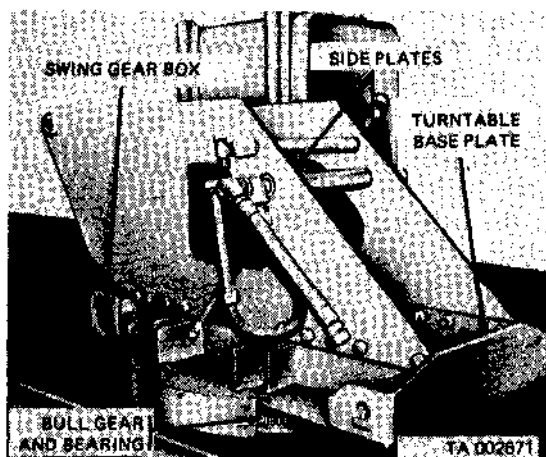

Figure 555. Turntable and swing drive assembly.
a. General. The turntable and swing drive consist of the turntable base plate with bull gear bearing, side plates, and swing gearbox as shown in figure 555.
- (1) Remove boom assembly (para 406).
- (2) Remove hydraulic oil reservoir tank (para 400).
- (3) Remove boom elevating cylinders (para 404).
- (4) Remove operator's station (para 413).
- (5) Remove swing drive gearbox (para 402).
- (6) Remove hydraulic pump (para 401).
- (7) Remove hydraulic pump support (para 410).
- (8) Remove side plates from turntable base plate as shown in figure 555.
(3) Install side plates to turntable base plate as shown in figure 555.
(4) Install hydraulic pump support (para 410) and install hydraulic pump (para 401).
(5) Install swing drive gearbox (para 402).
(6) Install operator's station (para 413), the boom elevating cylinders (para 404).